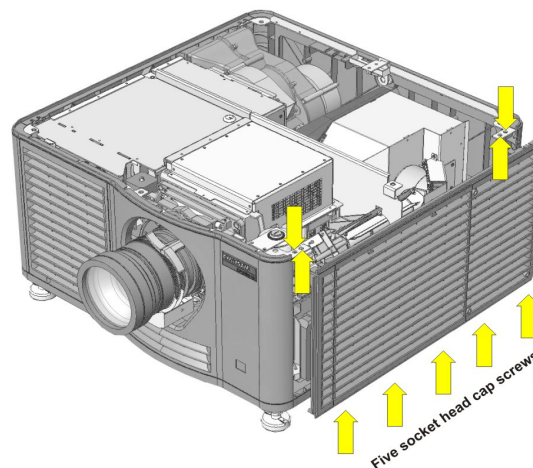

Figure 8 Remove Access Panel
- a. Use a #2 Phillips™ to remove the 2 screws at each corner of the skin (**Figure 8**).
- b. Use a 4mm hex key to remove the 5 socket head cap screws along the bottom edge of the skin (**Figure 8**).